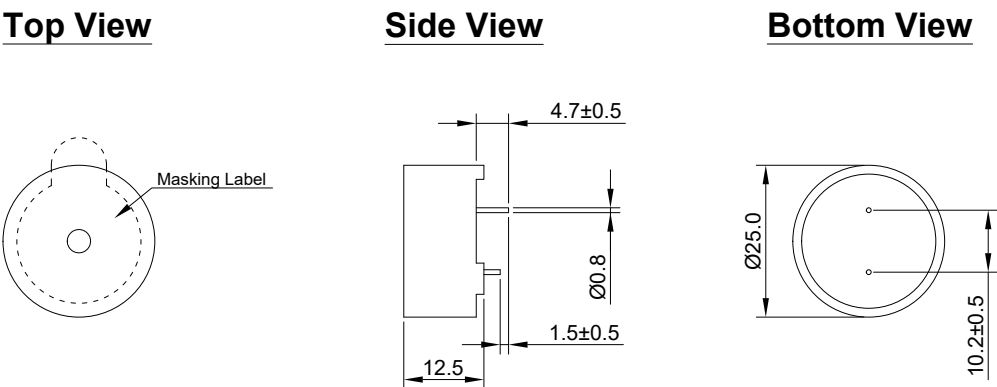

Figure 2. HCM2505B Mechanical Layout
4.3.1. Layout and Dimension	: See Section 6, Figure 2